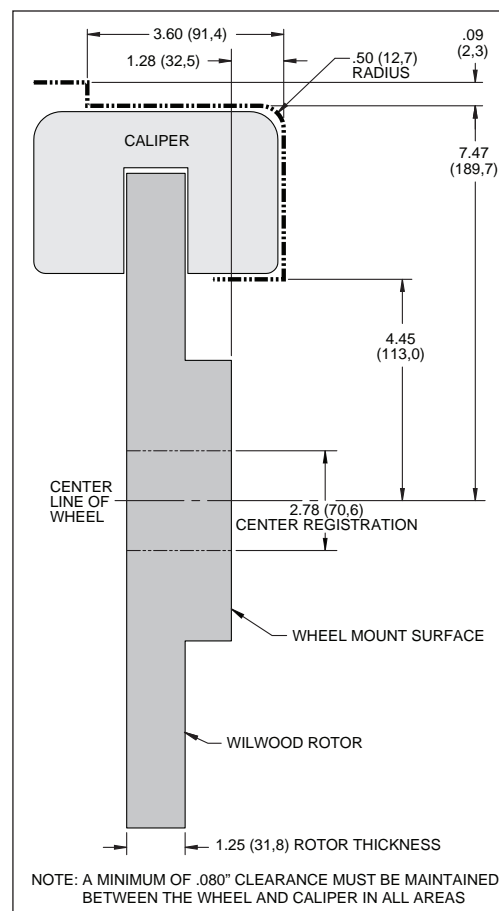

Figure 2. Wheel Clearance Diagram
- Review the wheel clearance diagram (figure 2, page 3) to verify that there is adequate clearance with the wheels you will be using with the installation.
•Make sure this is the correct kit to fit the exact make and model year of your axle. This kit is designed for direct bolt-on installation to 1997 through 2013 model year Chevrolet C5 and C6 Corvette hubs. Speciality aftermarket wheels or spacer may be required. Check wheel clearance diagram, Figure 2.
•Verify your wheel clearance using Figure 2.